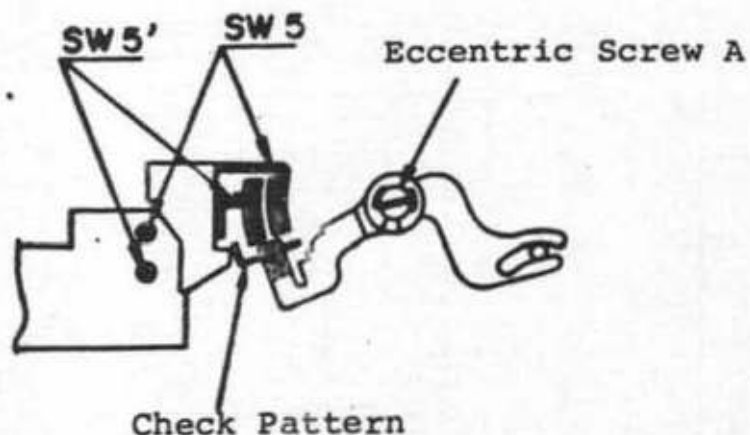

Fig. 2-21
2. Set the brush so that it is on the check pattern. (Fig. 2-21) Adjustment: Eccentric Screw A
4. Recheck the brush position. At least four segments of the brush should be on each of the switch patterns. (Fig. 2-21) Adjustment: Eccentric Screw A